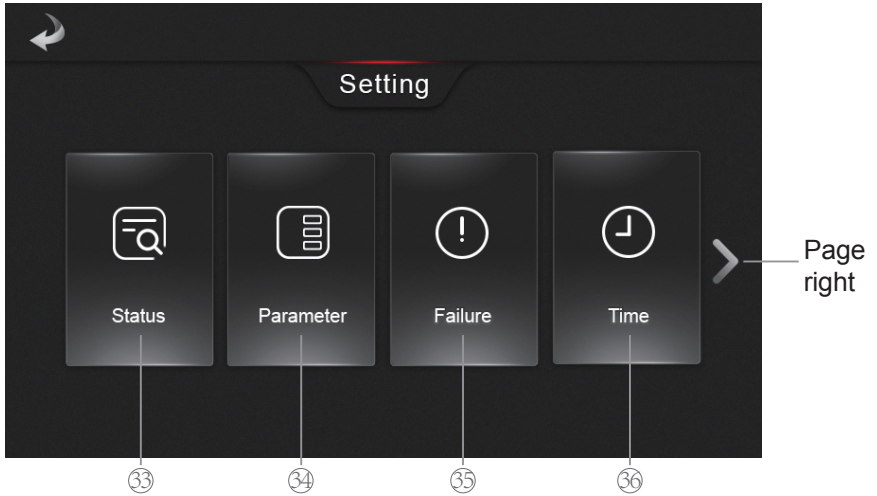
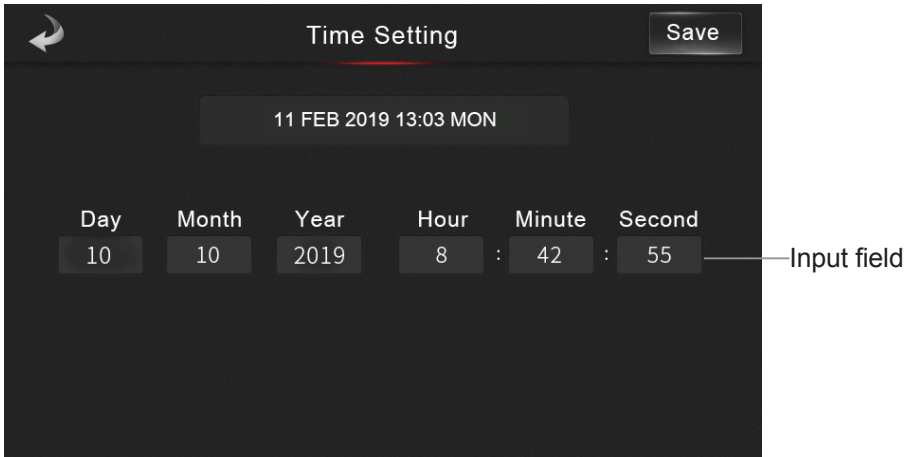

Fig. 9 Setting interface
Fig.16 Time Setting interface
In the main interface, press Setting button ⑥ to jump to Setting interface (Fig.9).
In the Setting interface (Fig.9), press Status button 33 to jump to Status interface.
While failure occurs, the icon  is flashing in the main interface. In the Setting interface (Fig.9), press Failure button  to jump to Failure Record interface for inquiring the current failure records (Fig.14).
In the Setting interface (Fig.9), press Time button ③⑥ to jump to Time Setting interface (Fig.16), click on the input field and enter time digital, press **Save** to save the settings.